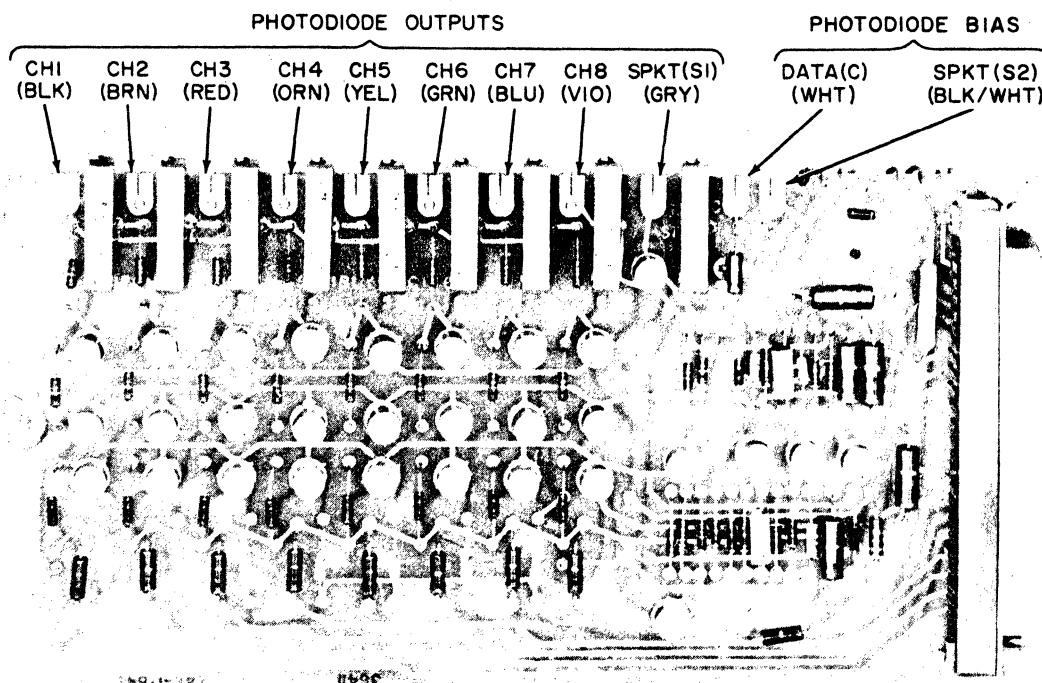

Figure 5-5 Photodiode Head Connections on LAC Board
- b. Disconnect photodiode head lead edgeboard connections on LAC board (see Figure 5-5), and separate leads from wire harness.
- e. Connect photodiode head leads to edgeboard connections following color code as shown in Figure 5-5, and dress and tie leads to wire harness.